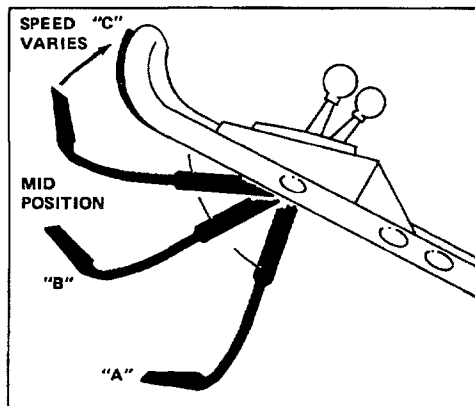

Figure 11
Note: For starting system break-in during first hour of operation, move control bar to position "A" (Fig. 11), then raise to mid position and hold while turning key.
5. BLADE AND TRACTION OPERATION (Fig. 11)— Move control bar down to "A" and raise to engage blade "B". Move ground speed control to desired setting and squeeze control bar against handle "C" to drive. Ground speed varies, depending on space between control bar and handle. To disengage traction drive, but keep blade engaged, gradually release control bar to mid position. To self-propel with blade disengaged, simply squeeze control bar against handle, eliminating downward movement necessary for blade engagement.